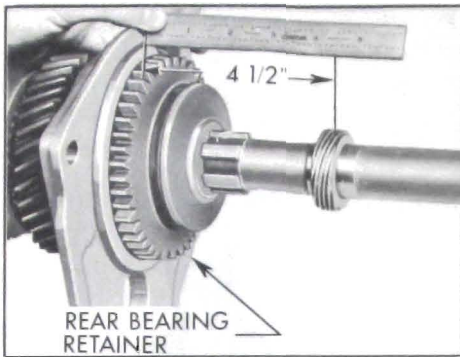

Figure 4-70A—Speedometer Gear Location
13. Install the self-locking bolt attaching rear bearing retainer to transmission case, (see Figure 4-70A). Torque to 20 to 30 ft. lbs.